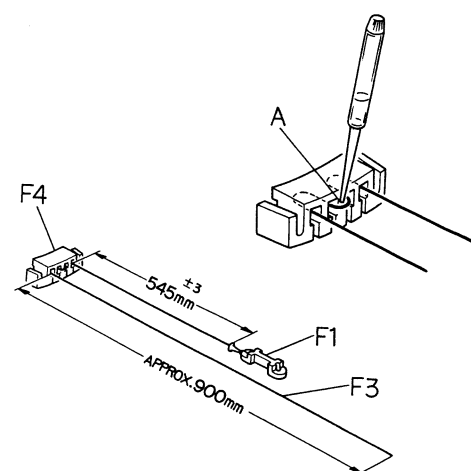

Fig. 5.2
- (3) Refer to Fig. 5.2. Passing the thread through F4 (wire holder), set length of thread between F1 and F4 to be 545 mm. Drip a drop of AVDEL BOND #C-2 onto the point A for fixing the thread.